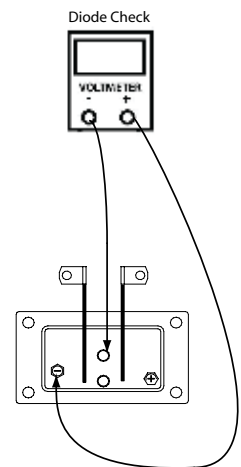

Fig 3
Step 3: Connect test leads per Fig 3 and record the reading.
Step 3: Place bearing retainer on front housing and tighten mounting screws to 33-39 in-lbs. See Fig. 3.